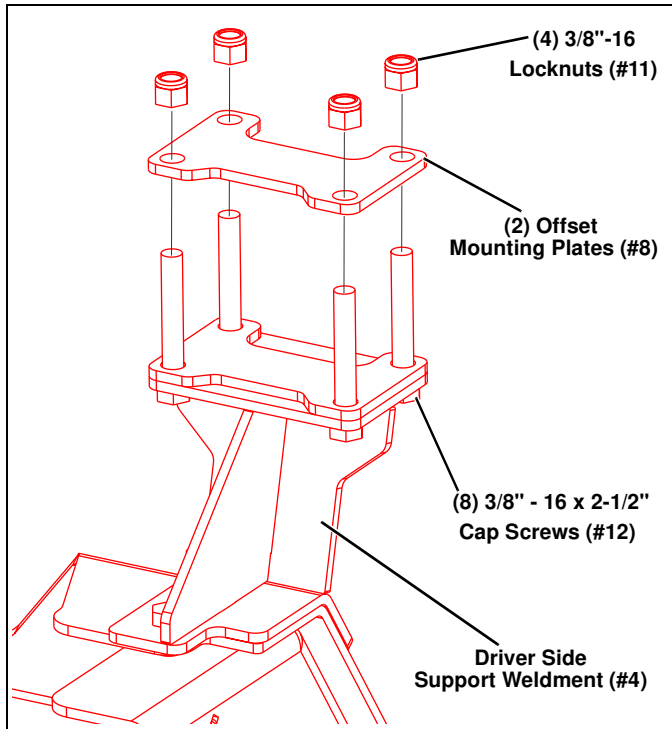

Figure 7 (Driver Side Support Weldment Shown)
11. Set (2) Offset Mount Plates (#8) above the upper cross tube, one above each of the Support Weldments (#4 & #5). Fasten together using (8) 3/8"-16 x 2-1/2" Cap Screws (#12) and (8) 3/8"-16 Locknuts (#11). (See Figure 7.)